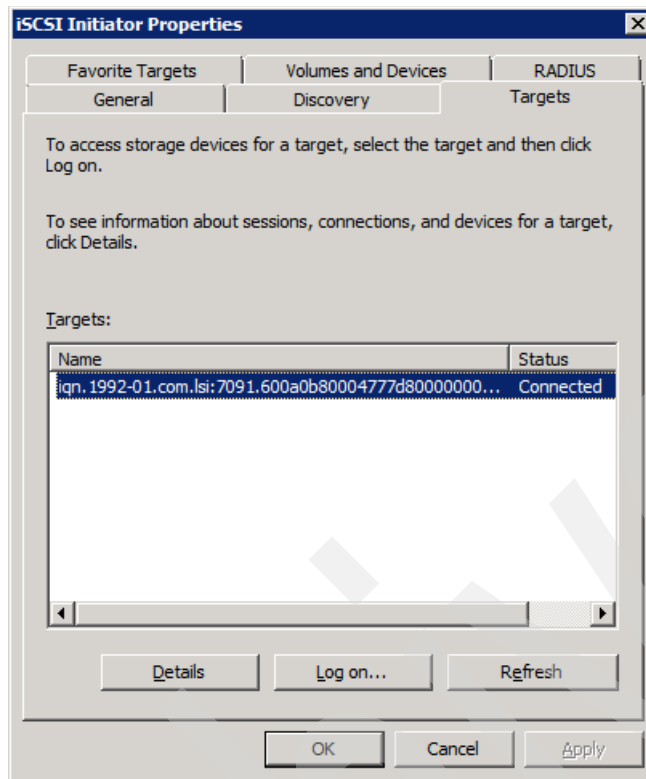

Figure 3-33 Target Connected
9. Click **OK** to finish the Advanced Settings, and **OK** again to finish the Log on process. The status of the Target changes from Inactive to Connected, as shown in Figure 3-33.